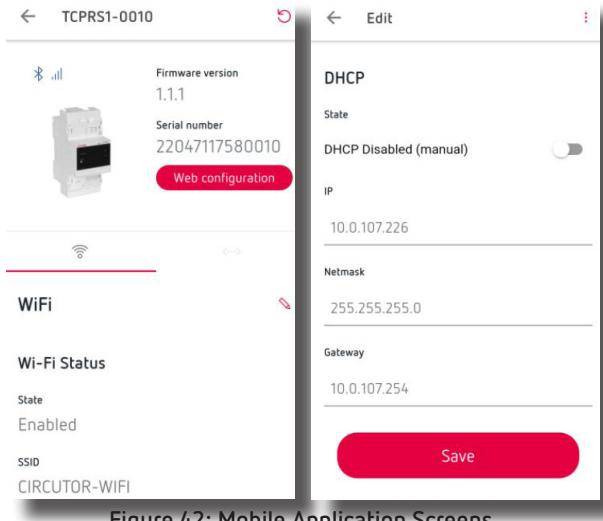

**Figure 41:** Website: Firmware.
- ✓ On the **Firmware** screen, update the device's firmware (**Figure 41**).